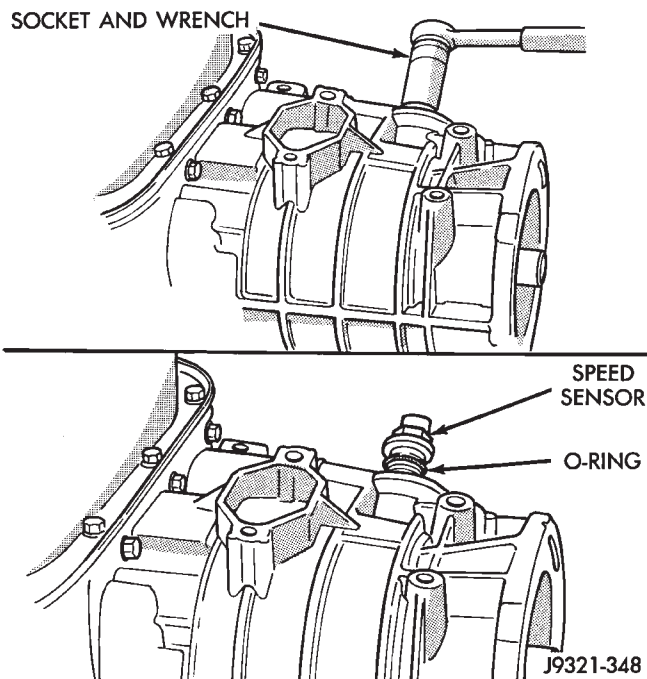

Fig. 182 Transmission Speed Sensor Removal/Installation
(1) Remove transmission speed sensor and O-ring seal from overdrive case (Fig. 182).